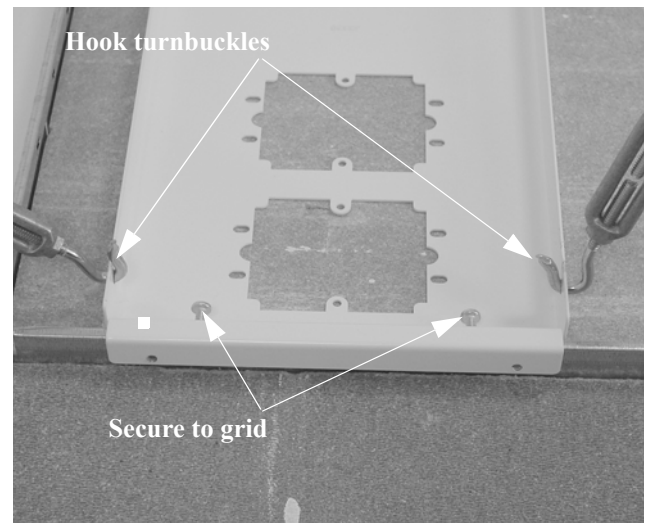
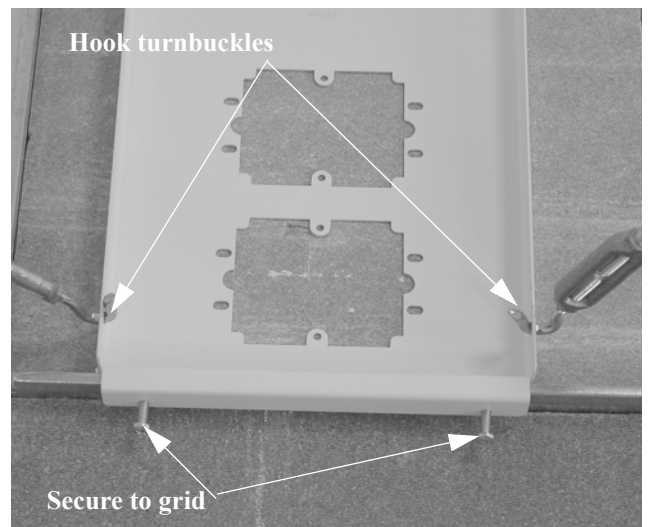

Figure 2. Bracket Attachment for USA/SAE
Figure 3. Bracket Attachment for Europe/Metric
7. Place the ceiling tray into the 24 x 24 in. (600 x 600 mm) or 24 x 48 in. (600 x 1200 mm) opening in the ceiling in place of a ceiling tile, or mount the tray above the ceiling (see Figure 2 for SAE applications or see Figure 3 for metric applications). Depending on where the ceiling tray is located.
8. Using four 10 x 24 x 5/8" Phillips-head self-tapping screws in the inside four holes for SAE applications (see Figure 2) or in the outside four holes for metric applications (see Figure 3) of the ceiling tray, clamp the ceiling tray to the ceiling runners.